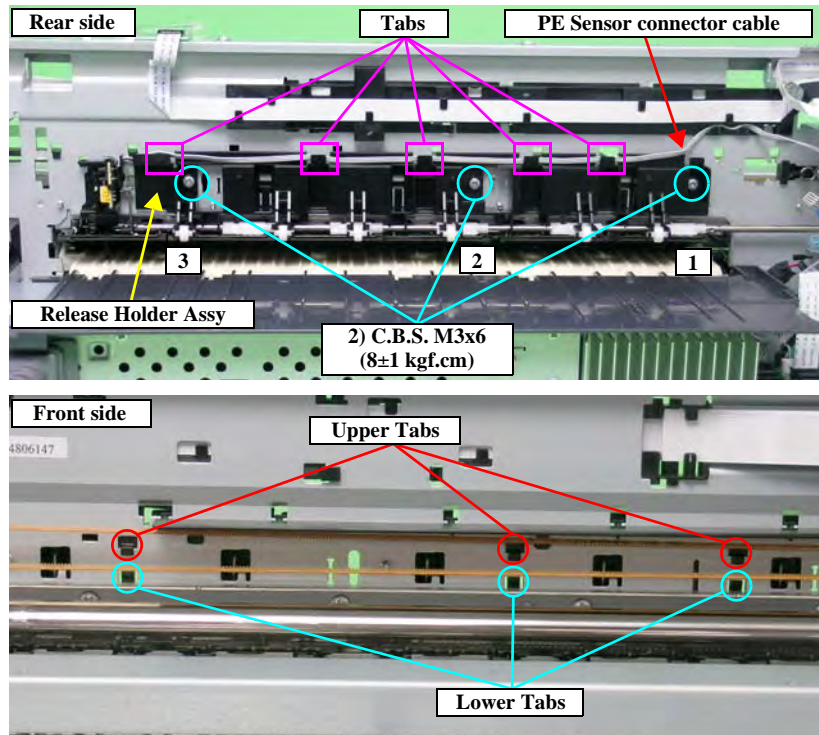

Figure 4-148. Removing the Release Holder Assy
- Align the three upper tabs on the Release Holder Assy with the positioning holes on the Main Frame. See Figure 4-148.
- Tighten the screws in the order shown in Figure 4-148